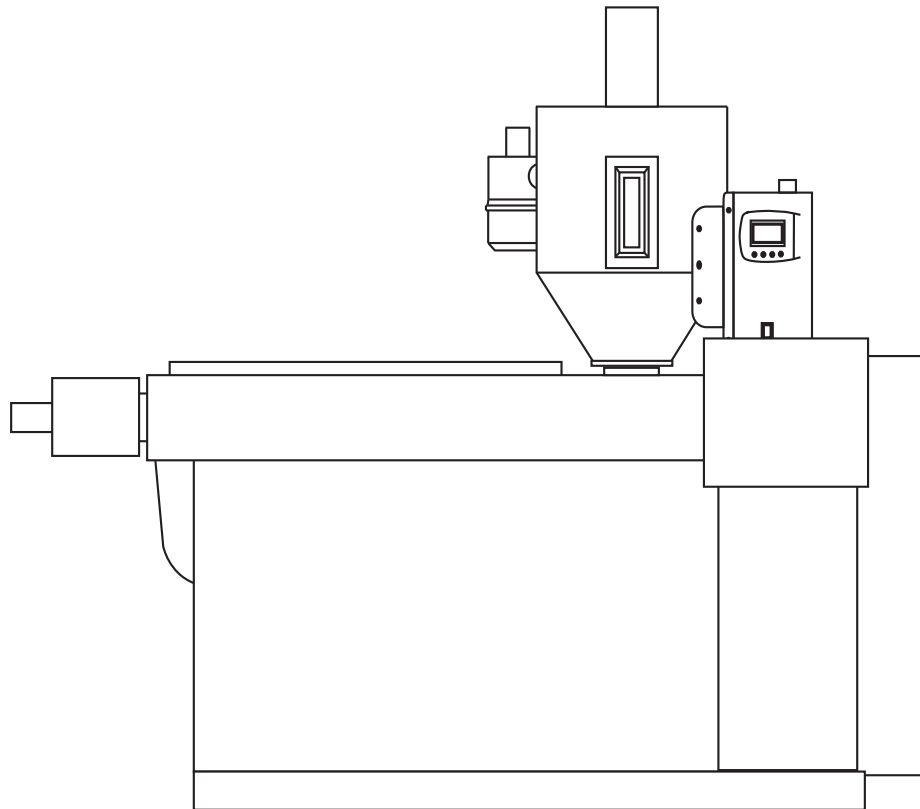

Figure 3
The dryer can be equipped with components that allow it to work with additional advanced features. A stand alone application could be as shown in Figure 3. The dryer 3 works with a hopper 4 and control the drying hopper loader 1 to load the material from a bulk container 7. On the material discharge of the hopper 8 the dried plastics pellets is conveyed through a pipe 10 to the machine hopper loader 2 which fills a small maintenance hopper on the IMM or extruder 6. A proportional valve 9 can be installed to mix the main material with, for example, a just regrinded material from the grinder 12.
The proportional valve, item 9 in Figure 3, is a special optional motorized valve controlled by the dryer 3 that allows a mix of two different materials in the desired percentage. The proportion between the two materials is reached by dividing the suction time through pipe 10 and 11 according to the percentage required. For example if the total suction time is 20 seconds and the regrind percentage is 25% the suction time will be 5 seconds for the regrind and 15 seconds for the main material. Additionally it can use more than a proportional cycle for each charge, for example with 2 cycle the regrind sucking time will be 2.5 seconds then 1.7 seconds main material then 2.5 seconds regrind then last 7.5 seconds of the main material. Increasing the cycle time will also increase the homogeneity of the two materials but will lower the convey efficiency so it's important to regulate the cycle number with just the minimum value needed.